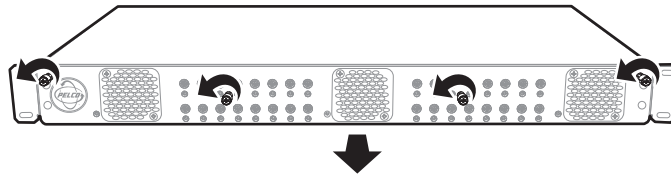

Figure 16. Remove Front Panel (32-channel model shown)
2. Loosen the four thumb screws located on the front panel cover (refer to Figure 16). Pull the front panel away from the chassis, and then let it hang from the front panel brackets.